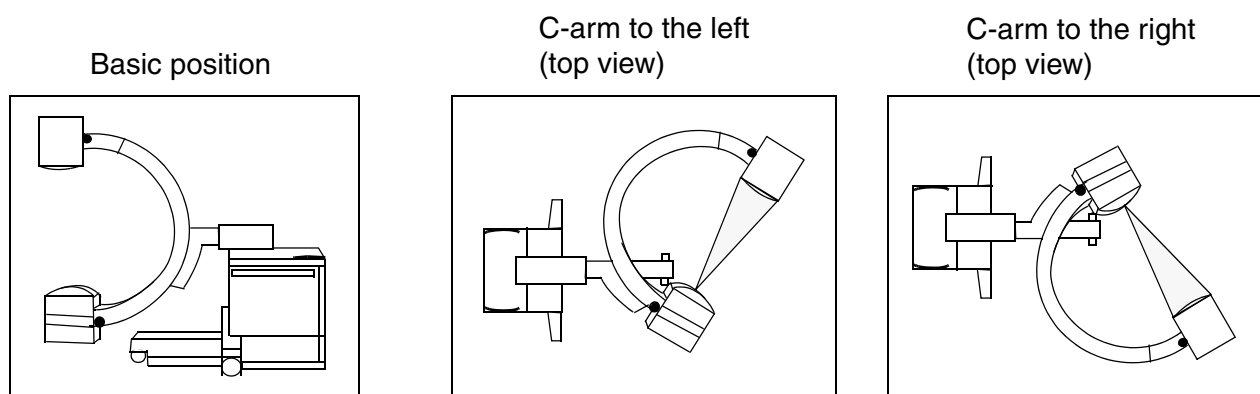

Fig. 3
3. Adjust the C-arm (see Fig. 3).